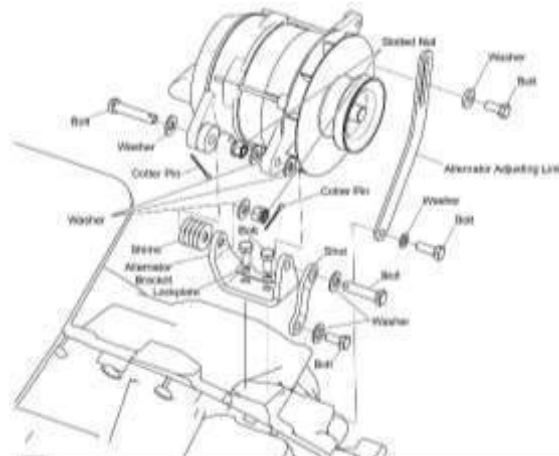

Figure 5
- (2) Loosen the bolt that attaches the alternator adjusting link to the alternator (Figure 5).
- (3) Loosen the bolt that attaches the alternator adjusting link to the crankcase.
- (3) Remove the two bolts and two different washers from the alternator adjusting link (Figure 5).
- (4) Remove the alternator adjusting link.
- (5) Remove the two cotter pins, two bolts, two slotted nuts, shims and three washers from the alternator bracket, strut, and alternator (Figure 5). Discard the cotter pins.
- (6) Remove the alternator and alternator belt.
- (1) Remove the two bolts and lockplate from the alternator bracket (Figure 5). Discard the lockplate.
- (2) Remove the two bolts and washers from the strut and alternator bracket.
- (3) Remove the strut and alternator bracket.
- (1) Mount the alternator bracket on the engine.
- (2) Install a new lockplate with two bolts and washers on the alternator bracket (Figure 5). Torque the bolts to 17 ft.-lb. (23 Nm).
- (3) Bend the tabs of the lockplate against the bolts.
- (4) Attach the strut to the alternator bracket with the two bolts and washers. Torque the bolts in accordance with the latest revision of the **Service Table of Limits SSP - 1776**.
- (1) Mount the alternator on the alternator bracket (Figure 5).
- (2) Install the bolt, two slotted nuts, shims (as many as necessary) and three washers on the alternator bracket and alternator as shown in Figure 5. Install a new cotter pin in each new slotted nut.
- (3) Install the alternator adjusting link with the two bolts and different washers where shown in Figure 5.
- (4) Examine the alternator belt per “Alternator Belt Inspection” in this chapter.
- (5) Install the alternator belt on the alternator per the “Alternator Belt Installation” procedure in this chapter.
- (3) Loosen the bolt that attaches the alternator adjusting link to the crankcase (Figure 5).
- (4) Rotate the alternator on the bracket towards the starter ring gear.
- (3) Adjust the alternator belt tension. Refer to the “Alternator Belt Tension Check/Adjustment” procedure in this chapter.
- (4) Torque the bolts that attach the alternator adjusting link to the alternator and to the crankcase to (Figure 5) to 17 ft.-lb. (23 Nm).